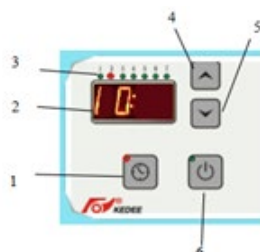

Fig. 6-2
- Click 🕒 Key (1) to accept the weekday selection and then select the hour by using Key (4) or (5) (Fig. 6-2);